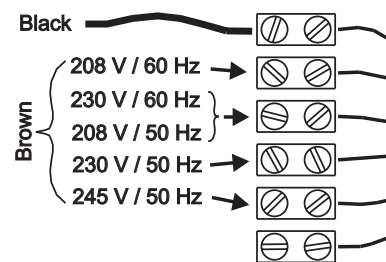

Figure 9: Magnetic ballast connections
- 4 Move the brown wire on the ballast connection block to the position shown Figure 9.